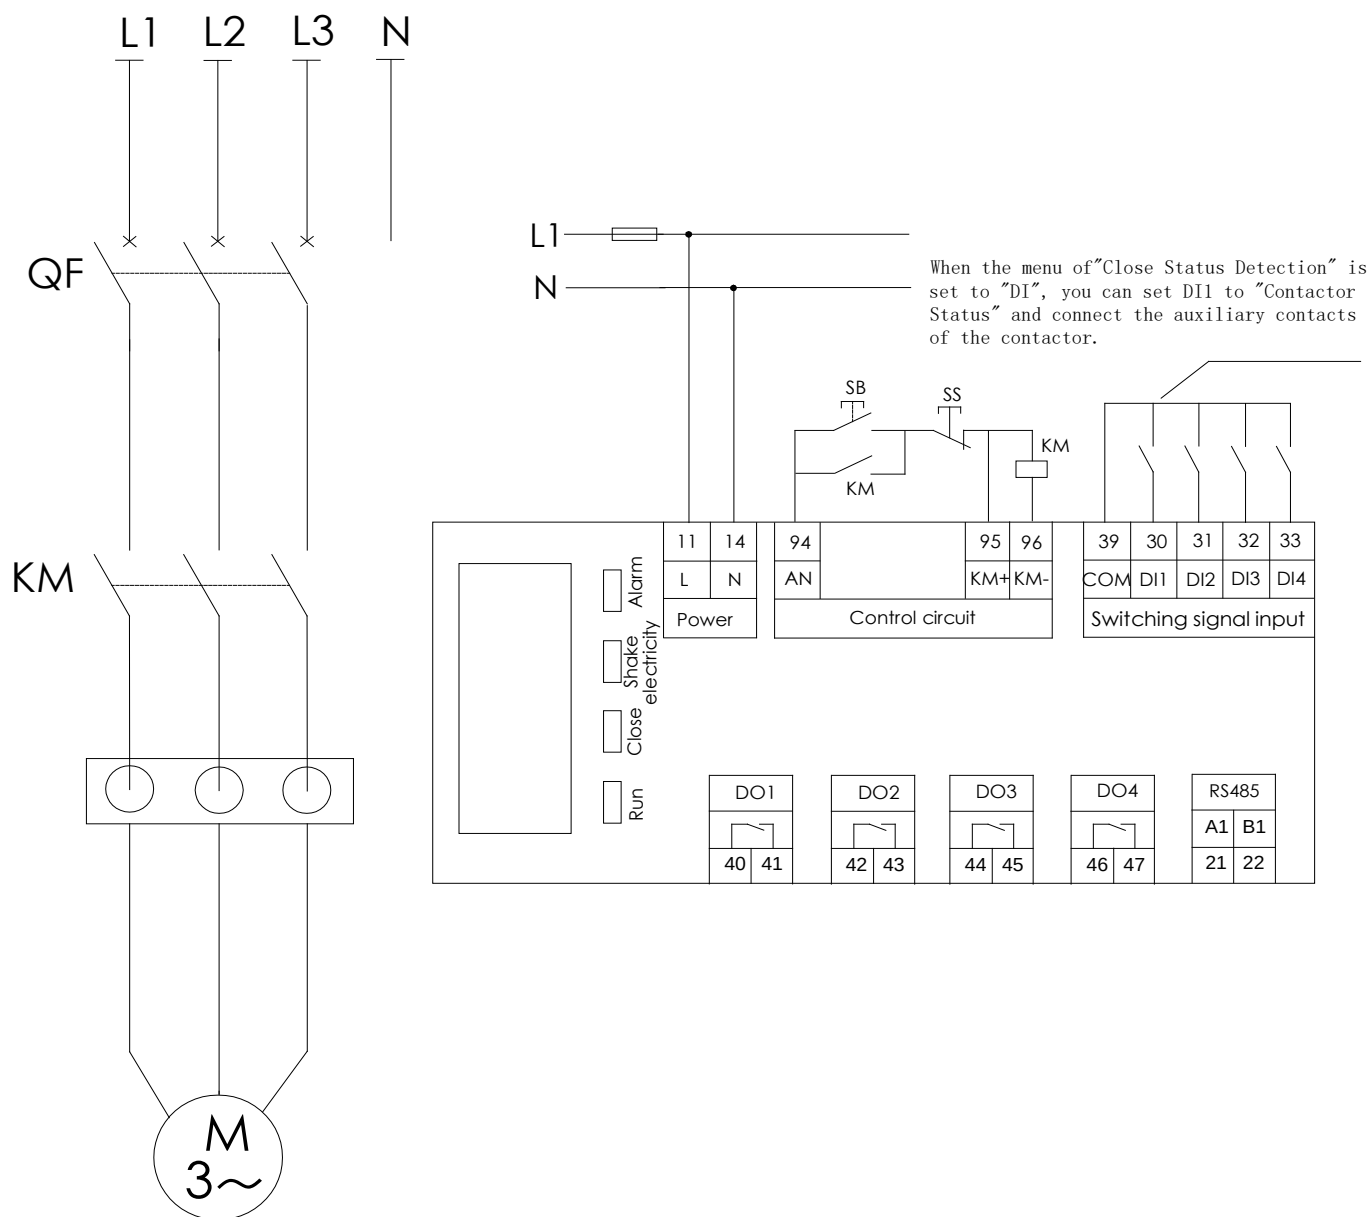

Figure 3 Wiring diagram of the Contactor hold mode
8.1 Figure 3 shows the typical wiring in the "Contactor hold" mode: